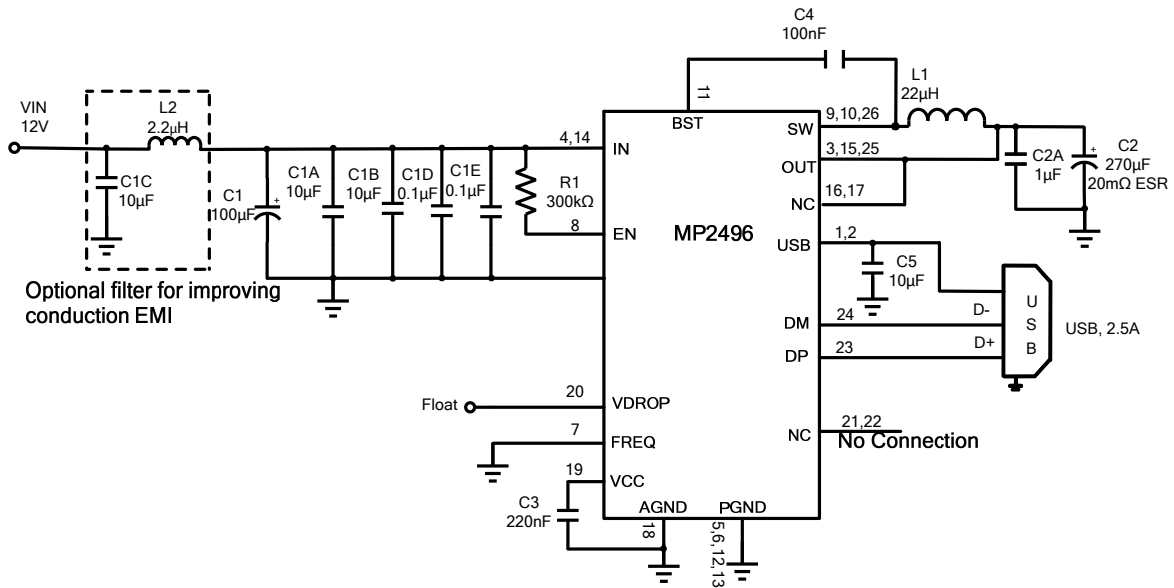

Figure 6: $V_{IN} = 12V$, USB = 5V/2.5A
8) The recommended layout is based on the Typical Application Circuit shown in Figure 6.